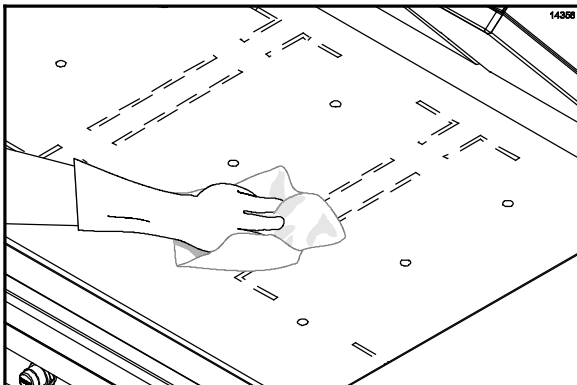

Figure 106
40. Pour a small amount of lukewarm water on a clean, sanitizer-soaked grill cloth held over the bottom grill surface and wipe off the residue. (See Figure 106.)